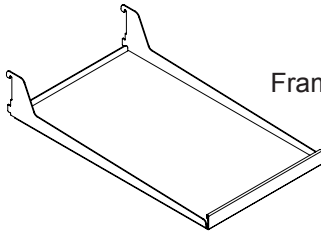

Figure 30
- (2) frame and flat glass shelf. (See Figure 30).
- (1) half width flat glass cantilever shelf. (See Figure 30).